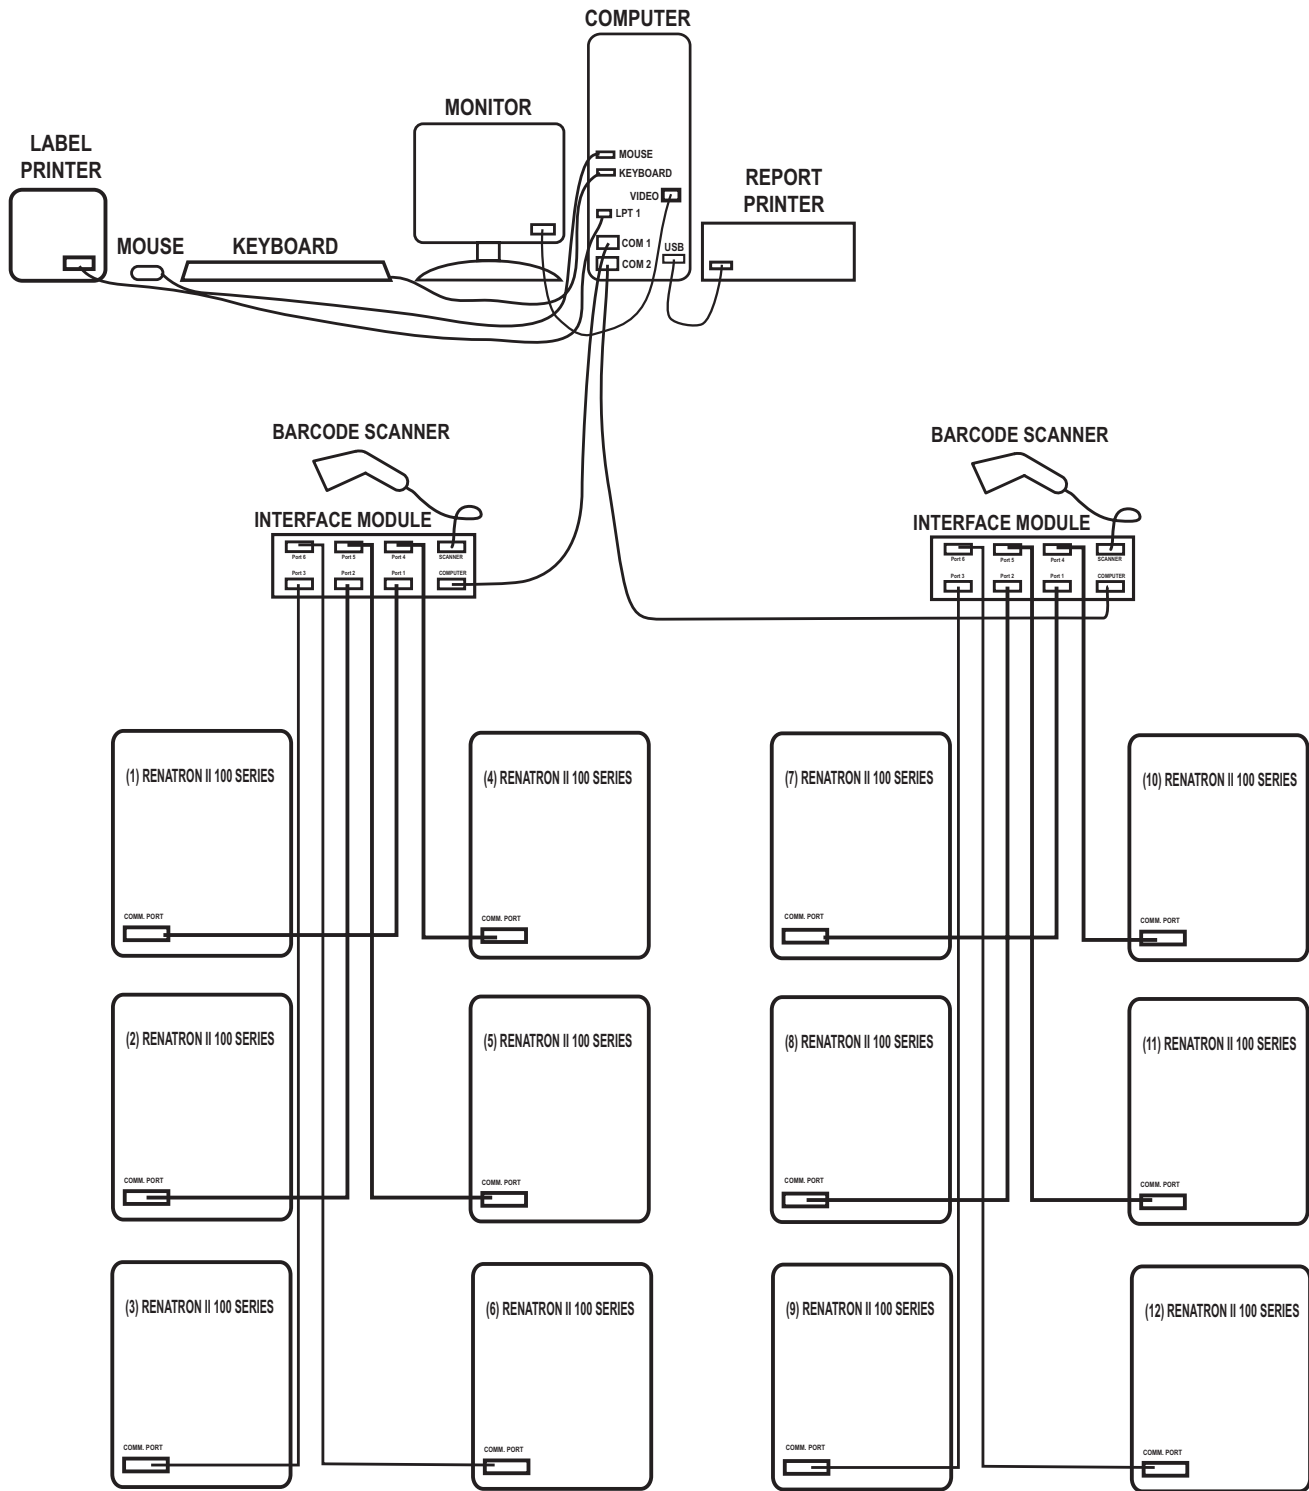

Figure 2
- D. **Attach the interconnecting cables as shown in Figure 2.**
- E. **Connect the Renatron II 100 Series station's communication cable** to the connector marked "Comm. Port" on the back of the Renatron II 100 Series Station to the lowest "port" number connector available on the "Interface Module." Reference Figure 2.